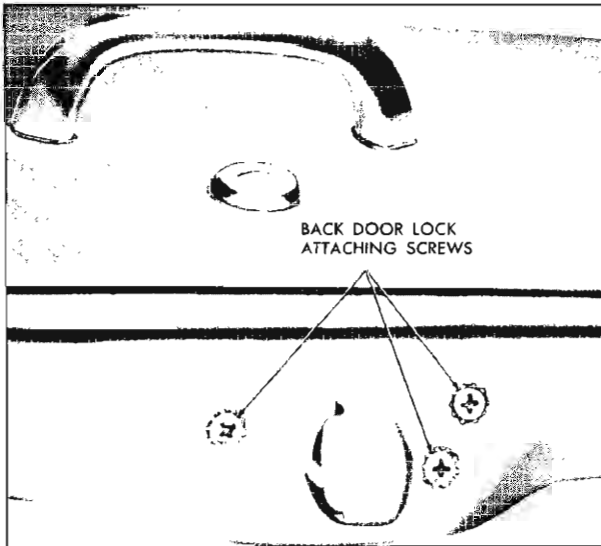

Fig. 14-14 Back Door Locks
3. Remove remote control support plate attaching screws (Fig. 14-14). Move support plate towards right side of door to disengage inner panel cam from regulator arm roller and remove support plate.
4. Remove three back door lock attaching screws from face of lock pillar (Fig. 14-14) and remove lock through hole in door inner panel.